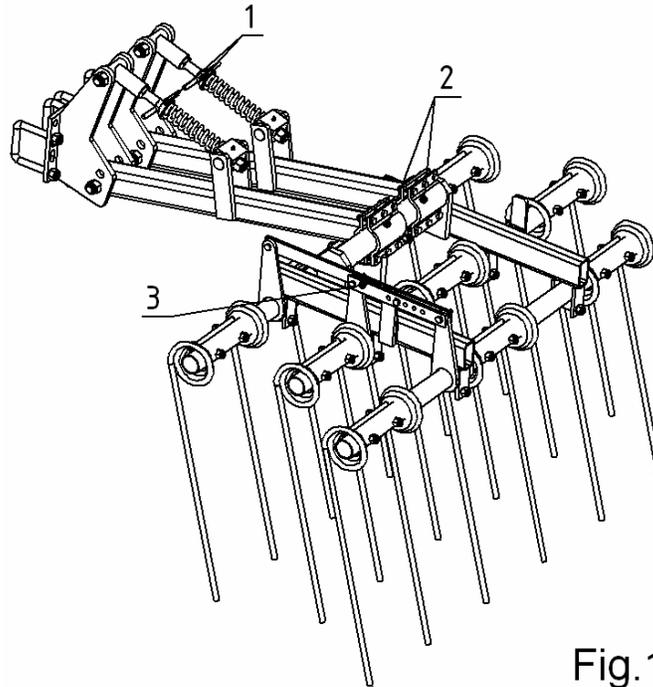

Fig.11
The height of the rake harrow is adjusted by turning the adjusting screw (item 1, fig 11)
The rake harrow level has to match the soil, if it doesn't adjust the clamps (item 2, fig 11)
The angle of the harrow is adjusted by the handle (item 3, fig 11)